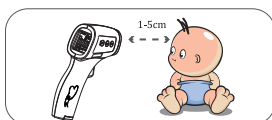

Figure 2-Measuring position and distance
- The thermometer is aligned with the middle of the forehead to measure body temperature (between the eyebrows above) and keep the vertical distance, press the On/Scan button, temperature display immediately, see figure 2.
|  | Incorrect test position.                                                                                             | See figure 2 Measuring position and distance.                                                                                                    |